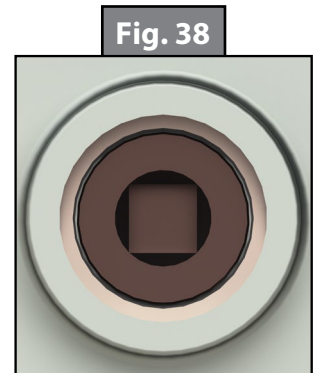

Fig. 38
3. Insert the $\frac{3}{8}$ " drive ratchet into the port (Fig. 38).